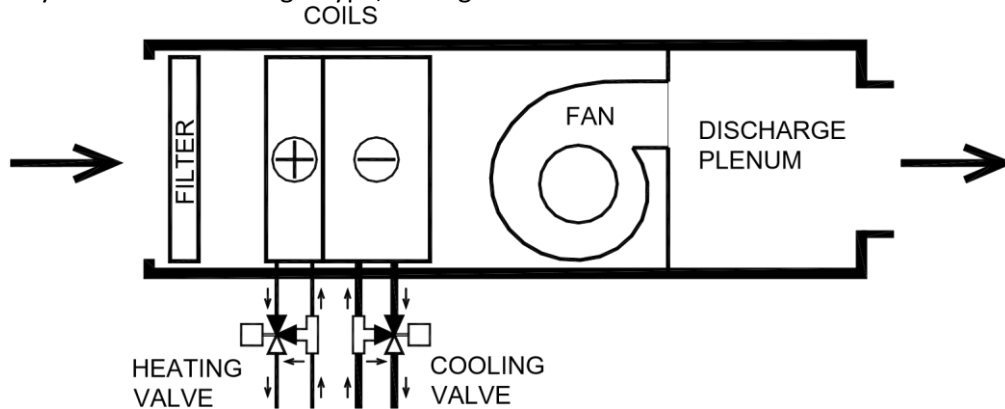

Figure 1 - Draw-Through Fan Coil Unit
- noise from the inlet of a fan coil unit is normally more of an issue for ceiling void units, so these units are generally of the 'draw-through' type, see Figure 1